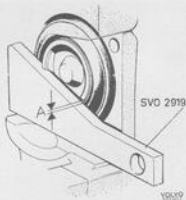
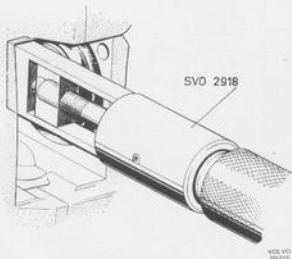

Fig. 5-27. Checking location
Fig. 5-28. Adjusting location
7. Concerns rear wheels brakes ATE: Check to make sure the pistons are in the proper position to avoid brake squeal. The piston recess should incline 20° in relation to the lower guide area on the caliper. Check the position with template 2919, see Fig. 5-27. The tolerance is $\pm 2^\circ$, that is, when the template is placed against the one recess, the distance to the other (meas. A) may be max. 1 mm (0.039"). If necessary, adjust the location of the piston with tool 2918. To do this, move the tool into position, see Fig. 5-28, press it against the piston and force out the shoes by screwing in the handle. Turn the piston, release the tool and re-measure with the template.
- 3b. Concerns ATE: Check to make sure the pistons are in the proper position to avoid brake squeal. The piston recess should incline 20° in relation to the lower guide area on the caliper. Check the location with template 2919, see Fig. 5-27. The tolerance is $\pm 2^\circ$, that is, when the template is placed against the one recess, the distance to the other (meas. A) may be max. 1 mm (0.039").
If necessary, adjust the location of the piston with tool 2918. To do this, move the tool into position see Fig. 5-28, press it against the piston and force out the shoes by screwing in the handle. Turn the piston, release the tool and re-measure with the template.